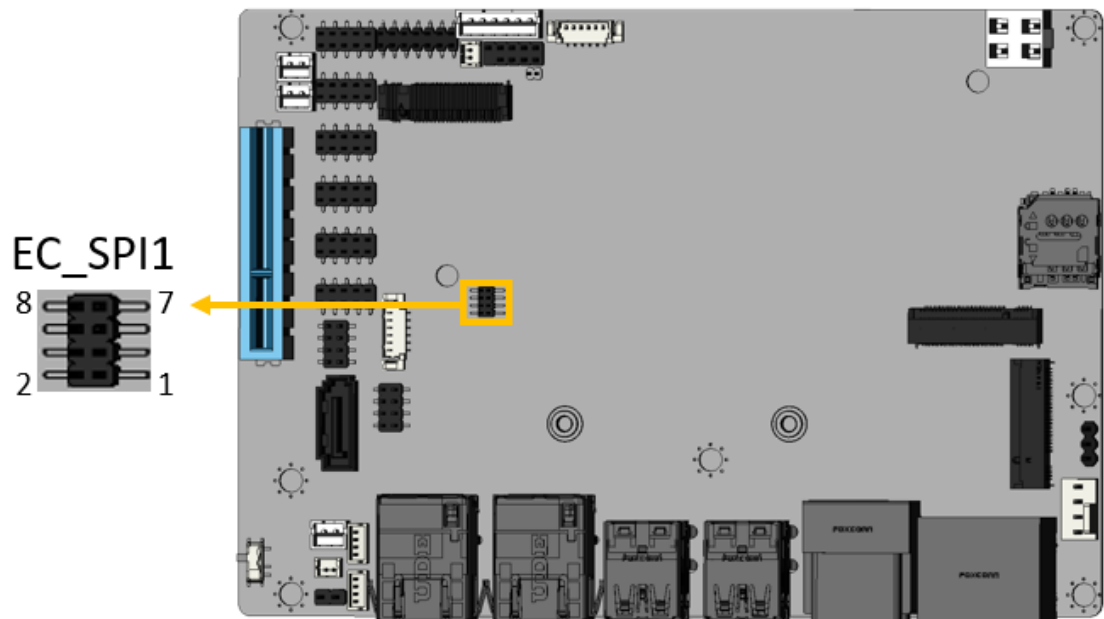

Figure 3-22: Flash EC ROM Connector Location
- CN Location:** See Figure 3-22